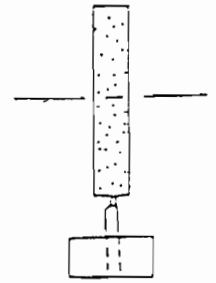

fig 3
4. Fix the steel wire on the fixing stand under the table (figure 3).
1. Adjust the level of balancing stand (fig3).
- C. When you dress the grinding wheel, you must start from the middle, because grinding wheel usually wear more on the end sides than in the middle. If you dress from the two sides to middle, then pressure can build up during grinding (fig 3).